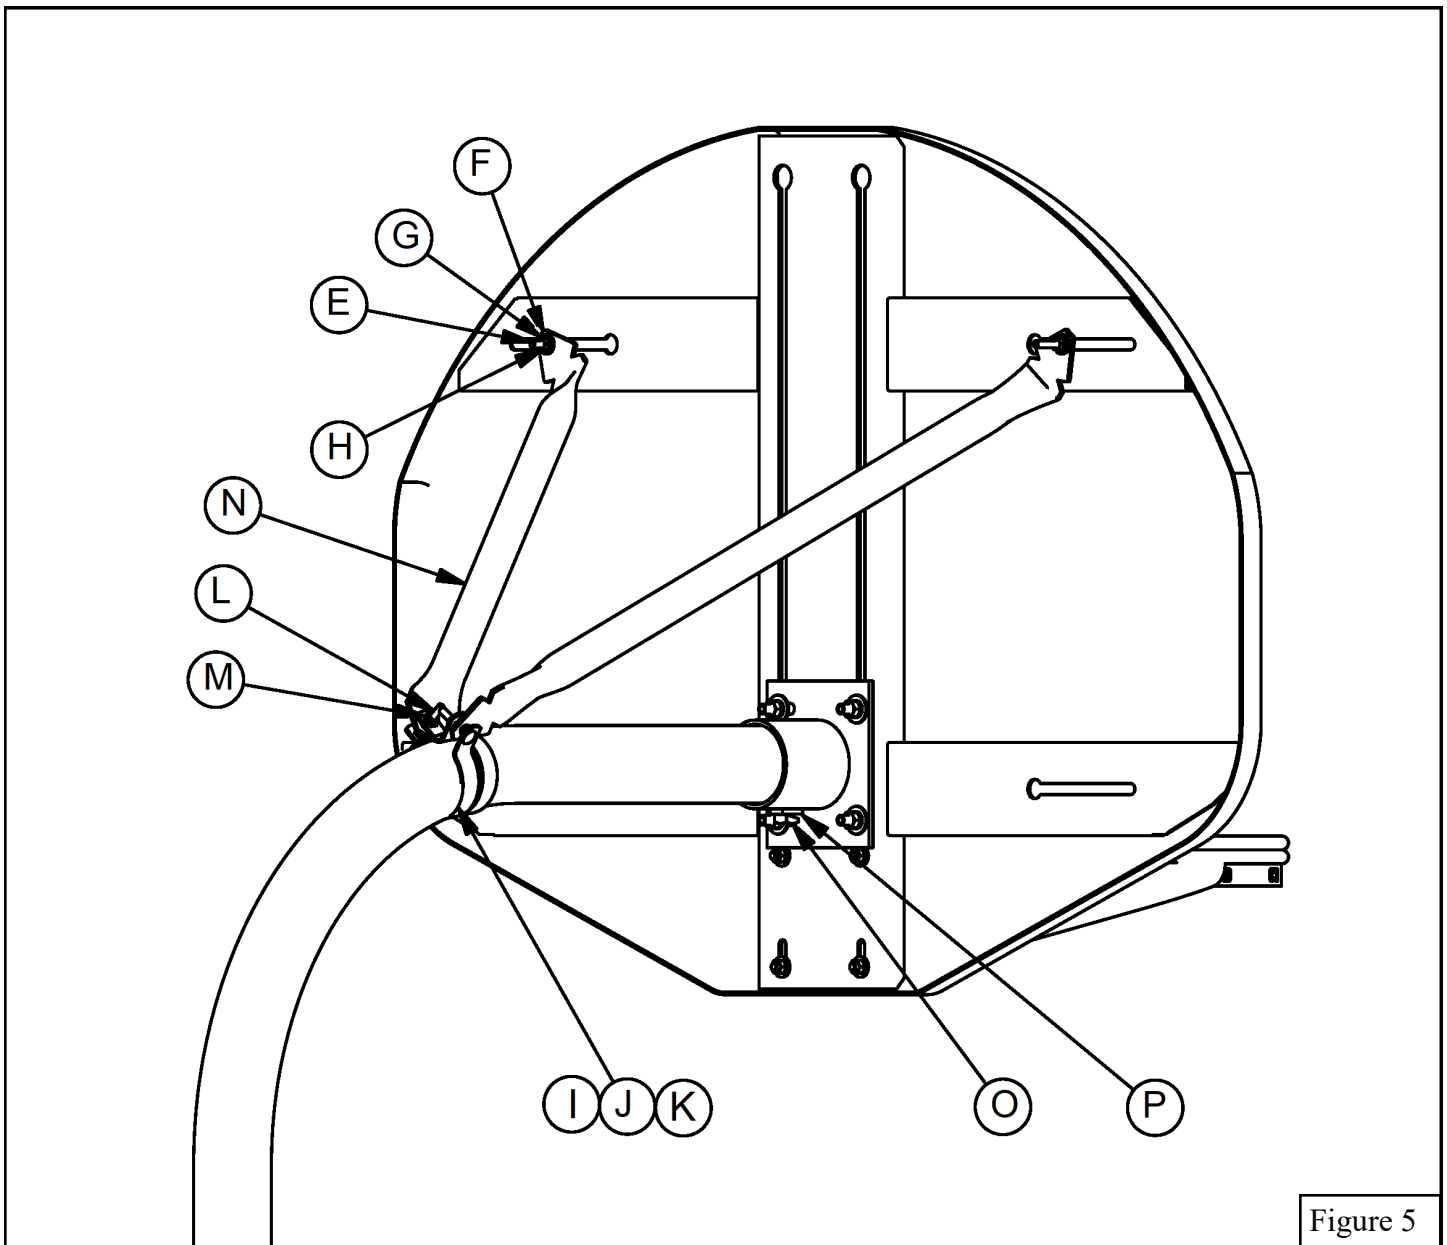

Figure 5
6. Slide two Band Clamps (I, J or K) onto the horizontal portion of the gooseneck pole. Discard the extra Band Clamps (I, J or K). See Figure 5.
7. Place the assembly from instruction #5 above onto the end of the pole. It is easiest to place the assembly onto the end of the pole upside down and then rotate 180° before tensioning the $1/2''$ Square Head Set Screws (O). Confirm that the *Rim (R)* and *BA495 Fan Steel Backboard (A)* are level. Tighten the $1/2''$ Square Head Set Screws (O) against the gooseneck pole, then tighten the $1/2''$ Jam Nuts (P) to lock the $1/2''$ Square Head Set Screws (O). See Figure 5.
8. Loosen the $7/16''$ Hardware that attaches the Backboard Mounting Adaptor (B, C or D) to the *BA495 Steel Backboard (A)* and slide the *Rim (R)* and *BA495 Steel Backboard (A)* until the top of the *Rim (R)* is at the desired height. Retighten all $7/16''$ Hardware.
9. The Backboard Braces (N) will get attached to the Band Clamps (I, J or K) on one end, and the *BA495 Fan Steel Backboard (A)* on the other end. The tabs on the end of the Backboard Braces (N) will need to be bent to match the angles necessary to mount the Backboard Braces (N) to the *BA495 Fan Steel Backboard (A)* and Band Clamps (I, J or K). This can easily be accomplished in a number of ways including contacting each end on a concrete surface.
10. Attach one end of each Backboard Brace (N) to one of the two Band Clamps (I, J or K) using $5/16''$ Carriage Bolts (L) and $5/16''$ Flange Nuts (M). See Figure 5.
11. Use $7/16'' \times 1\ 1/2''$ Carriage Bolts (E), $7/16''$ Hex Nuts (H), $7/16''$ Flat Washers (F) and $7/16''$ Lock Washers (G) to attach the other end of the Backboard Braces (N) to the BA495 Fan Steel Backboard (A). See Figure 5.
12. When the BA495 Fan Steel Backboard (A) and Rim (R) are level, drill $1/4''$ diameter hole into gooseneck pole using the pilot hole in the Backboard Mounting Adaptor (B, C or D) as guide. Insert $1/4'' \times 1''$ Roll Pin (Q) with a hammer to reduce risk of rotation or movement. See Figure 5.